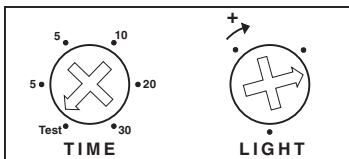

Figure 4 - Control Panel
4. For test purposes, use a small, phillips screwdriver to turn the TIME control to the TEST (30 second) position (see Figure 4). Turn the power back on at the circuit breaker.
There are preset selections for the amount of time the lights stay on: Test (30 seconds), 5, 10, 20, and 30 minutes. Use a small, phillips screw driver to adjust the TIME control (see Figure 4). Turn the TIME control until it “snaps” into the desired time position (arrow determines position).
You can adjust the sensor's sensitivity to existing light. Use a small phillips screwdriver to adjust the LIGHT control (see Figure 4). By turning the control fully clockwise (arrow determines position), the sensor will turn lights on even in full daylight. By turning the control fully counterclockwise, the sensor will only turn lights on when the existing light is very low.